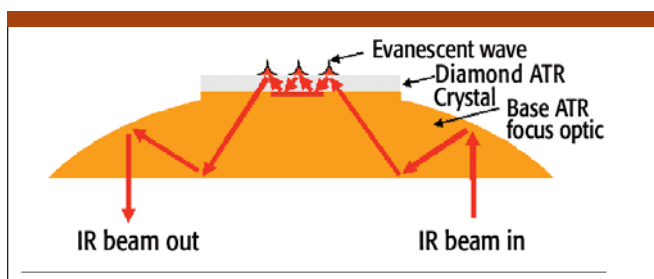

Figure 2. Optical graphic showing the IR beam path within the MIRacle three reflection diamond ATR crystal.
Alignment of the MIRacle base optics provides maximum throughput for the specific crystal plate. The MIRacle utilizes a patented optical design where the ATR crystal both focuses the IR beam and also provides the interface for ATR sampling (3). A graphical representation of the beam path for the three reflection MIRacle ATR is shown in Figure 2. The orange colored sphere represents the zinc selenide (ZnSe) base focus optic and the red arrows show the IR beam path. The IR beam is first